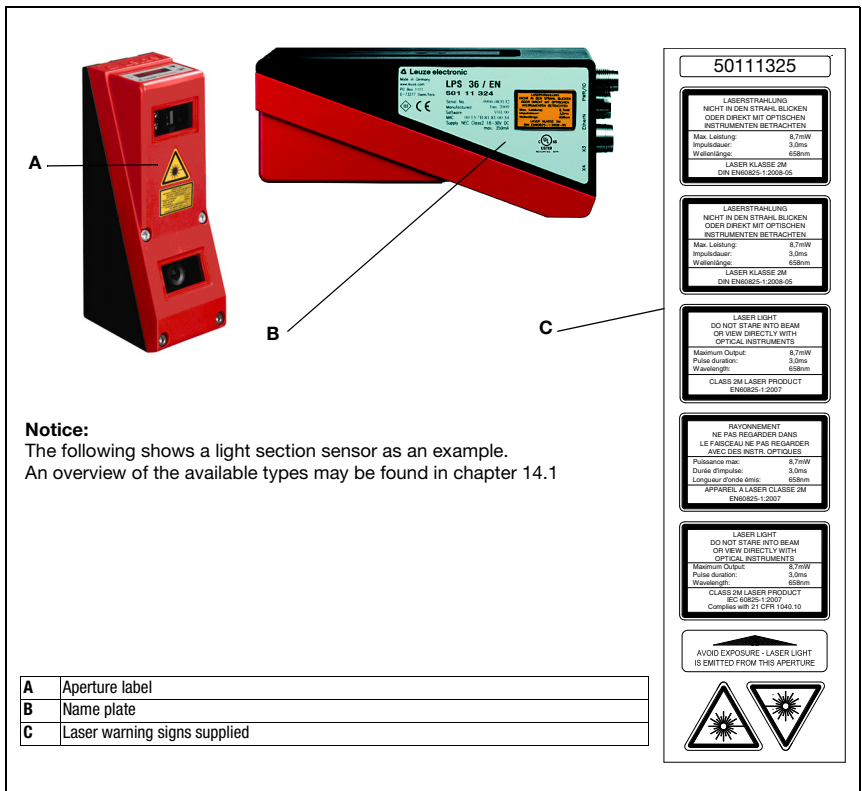

Figure 2.1: Name plate and warning notices
*It is essential that you attach the stick-on labels (C in figure 2.1) to the device with which they are supplied! If the signs would be concealed as a result of the mounting situation of the device, attach the signs in the vicinity of the light section sensor such that reading the signs cannot lead to looking into the laser beam!*